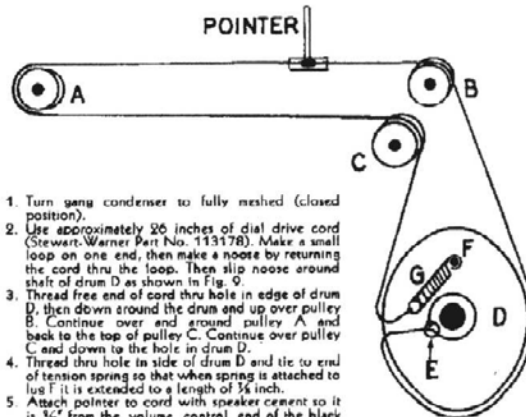

FIG. 9
2. Use approximately 26 inches of dial drive cord (Stewart-Warner Part No. 113178). Make a small loop on one end, then make a noose by returning the cord thru the loop. Then slip noose around shaft of drum D as shown in Fig. 9.